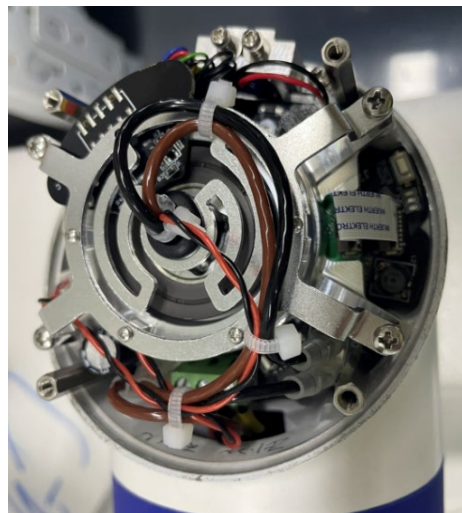

Figure 3-7 The joint with properly tied wires
- Connect the wires and tie them well as shown in Figure 3-7.